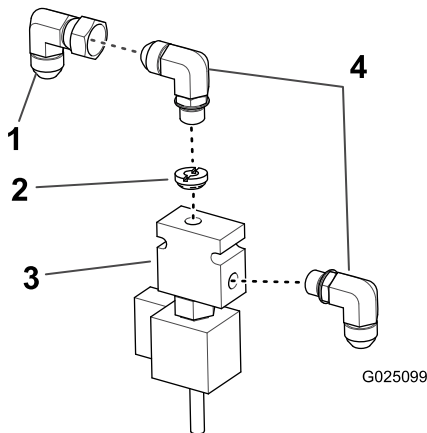

Figure 2
6. Install the orifice onto the valve assembly as shown in Figure 2 and hand tighten.
7. Install a 90-degree elbow fitting into the side of the valve assembly with the open end pointing down (Figure 2).
8. Install a 90-degree elbow fitting into the top of the valve assembly with the open end pointing to the left (Figure 2).
9. Install a 90-degree hydraulic fitting onto the top, 90-degree, elbow fitting with the open end pointing down (Figure 2).